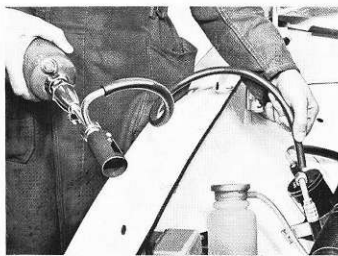

Fig. 8-88. Leakage test
4. Light the leak detector and check the entire system at all the connections by holding the end of the hose next to the connection (Fig. 8-88). If there is leakage, the colour of the flame will change to blue-green.